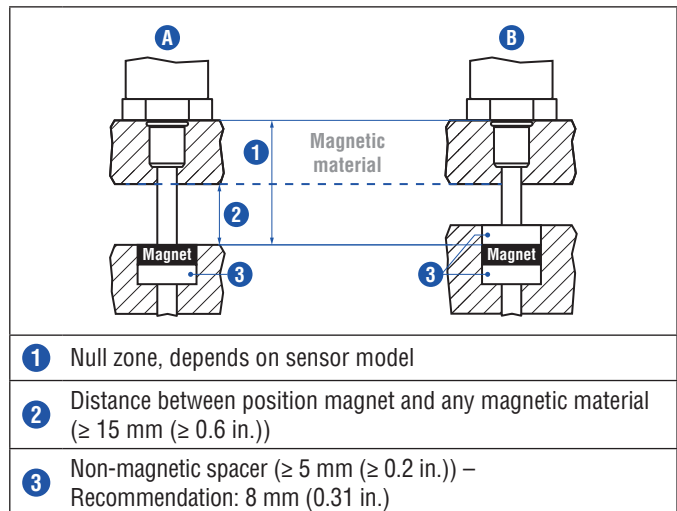

Fig. 37: Installation with magnetic material
- Minimum distance between position magnet and any magnetic material has to be 15 mm (0.6 in.) (Fig. 37)
- If no other option exists and magnetic material is used, observe the specified dimensions (Fig. 37)
When using magnetic material the dimensions of Fig. 37 must be observed.